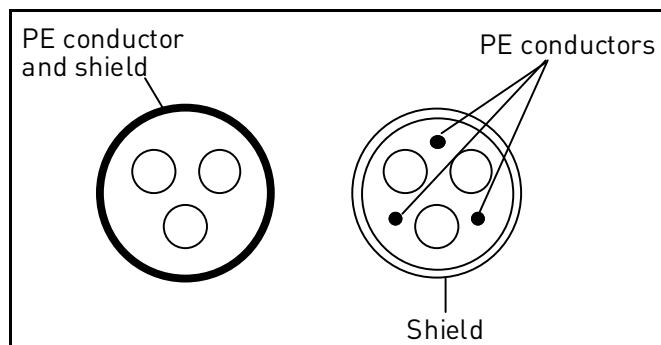

Figure 10.
- 2 = Symmetrical power cable equipped with concentric protection wire and intended for the specific mains voltage. (MCMK or similar recommended). See Figure 10.
- 3 = Symmetrical power cable equipped with compact low-impedance shield and intended for the specific mains voltage. [MCCMK, EMCCK or similar recommended; Recommended cable transfer impedance (1...30MHz) max. 100mohm/m]. See Figure 10.